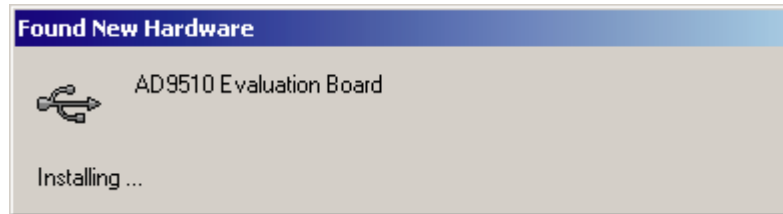

Figure 5.
6. The pop-up window in Figure 5 appears next.
After the pop-up window in Figure 5 has disappeared, you should notice that the USB Status LED on the evaluation board is flashing. This indicates that the evaluation board is now connected properly.